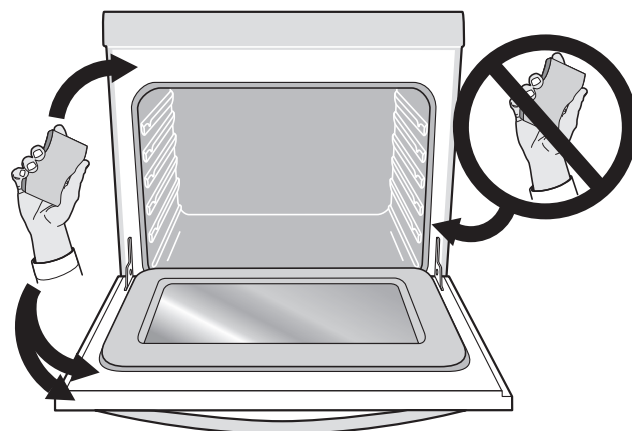

Figure 29: Oven door area to clean and not clean (gasket)
- Do not clean the oven door gasket (Figure 29). The woven material of the oven door gasket is essential for a good seal. Care should be taken not to rub, damage, or remove the gasket. Do not use any cleaning materials on the oven door gasket. Doing so could cause damage to the door gasket.
- Clean any soil from the oven frame, the door liner outside the oven door gasket and the small area at the front center of the oven bottom (Figure 29). These areas heat sufficiently to burn soil on. Clean using soap and water prior to starting fresh clean.